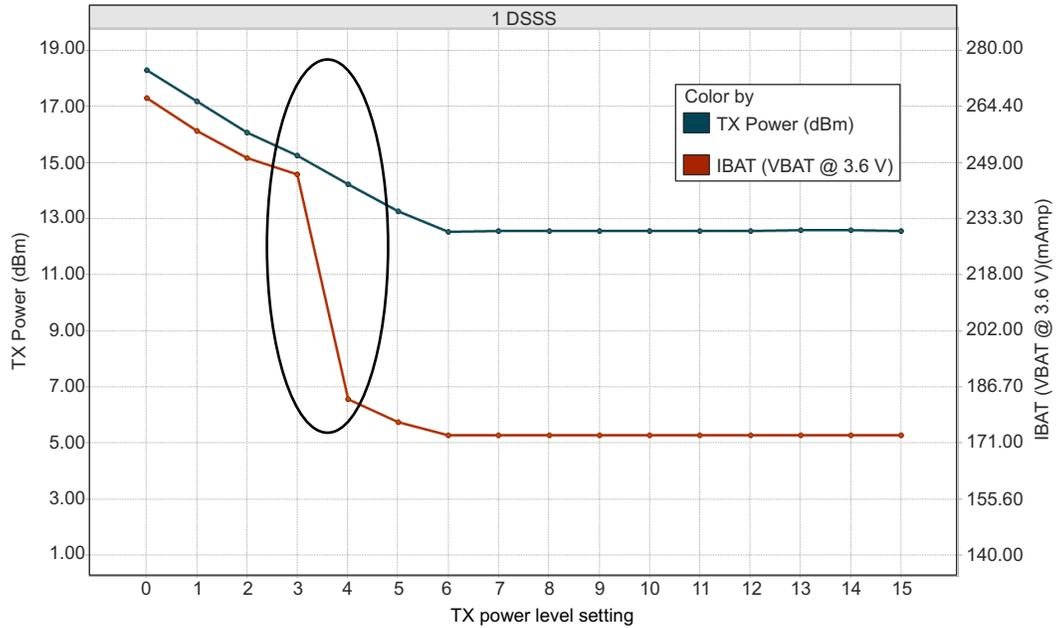
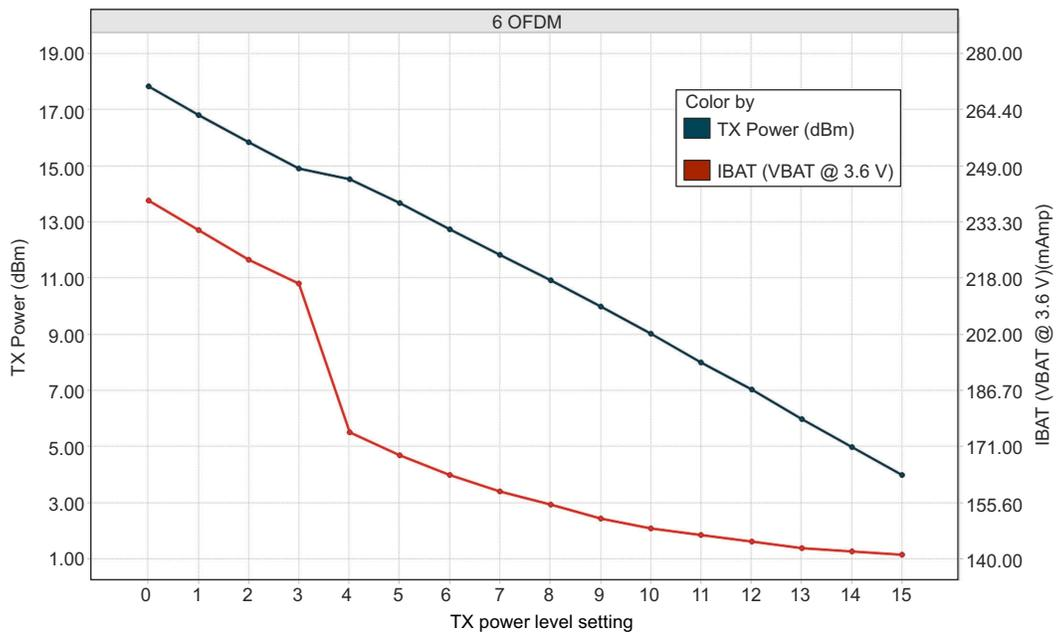
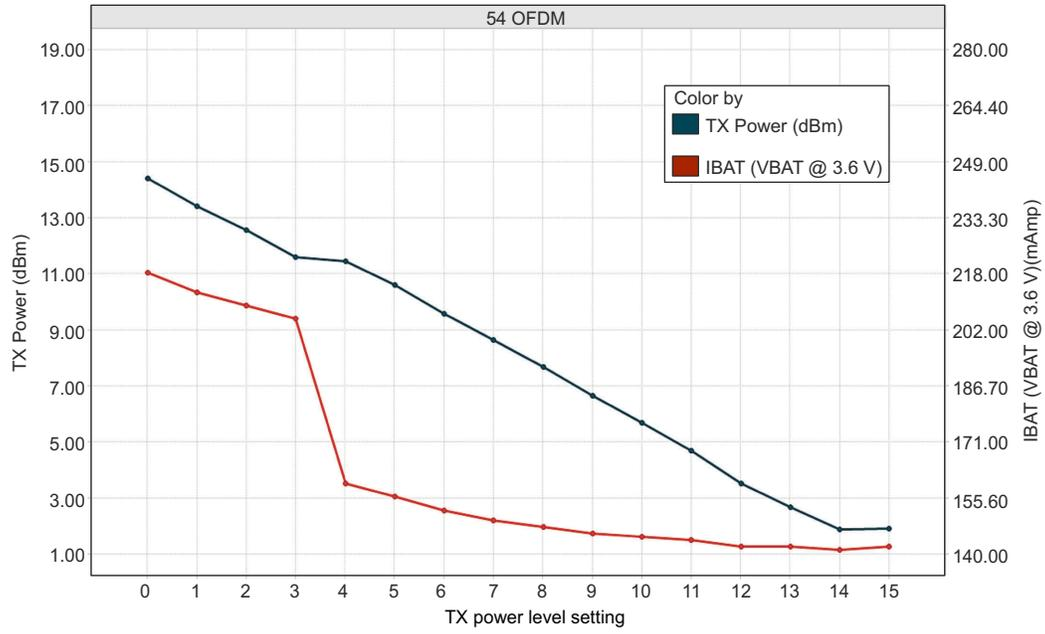

图 7-1. TX Power and IBAT vs TX Power Level Settings (1 DSSS)
图 7-2. TX Power and IBAT vs TX Power Level Settings (6 OFDM)
图 7-3. TX Power and IBAT vs TX Power Level Settings (54 OFDM)
- (1) TX power level = 0 implies maximum power (see 图 7-1, 图 7-2, and 图 7-3). TX power level = 4 implies output power backed off approximately 4 dB.
- (2) LPDS current does not include the external serial flash. The LPDS number of reported is with retention of 256KB of MCU SRAM. The CC3230x device can be configured to retain 0KB, 64KB, 128KB, 192KB, or 256KB of SRAM in LPDS. Each 64-KB block of MCU retained SRAM increases LPDS current by 4 μA.
- (3) DTIM = 1
- (4) The complete calibration can take up to 17 mJ of energy from the battery over a time of 24 ms. In default mode, calibration is performed sparingly, and typically occurs when re-enabling the NWP and when the temperature has changed by more than 20°C. There are two additional calibration modes that may be used to reduced or completely eliminate the calibration event. For further details, see CC31xx, CC32xx SimpleLink™ Wi-Fi® and IoT Network Processor Programmer's Guide.
- (5) The CC3230x system is a constant power-source system. The active current numbers scale based on the V_{BAT} voltage supplied.
- (6) Typical numbers assume a VSWR of 1.5:1.
- (1) TX power level = 0 implies maximum power (see 图 7-1, 图 7-2, and 图 7-3). TX power level = 4 implies output power backed off approximately 4dB.
- (2) LPDS current does not include the external serial flash. The LPDS number of reported is with a retention of 256KB of MCU SRAM. The CC3230x device can be configured to retain 0KB, 64KB, 128KB, 192KB, or 256KB of SRAM in LPDS. Each 64-KB block of MCU retained SRAM increases LPDS current by 4µA.
- (4) The complete calibration can take up to 17 mJ of energy from the battery over a period of 24 ms. Calibration is performed sparingly, typically when coming out of HIBERNATE and only if the temperature has changed by more than 20°C. The calibration event can be controlled by a configuration file in the serial flash.
- (5) Typical numbers assume a VSWR of 1.5:1.
图 7-1, 图 7-2, and 图 7-3 show TX power and IBAT versus TX power level settings for the CC3230S device at modulations of 1 DSSS, 6 OFDM, and 54 OFDM, respectively. For the CC3230SF device, the IBAT current has an increase of approximately 10mA to 15mA depending on the transmitted rate. The TX power level will remain the same.
In 图 7-1, the area enclosed in the circle represents a significant reduction in current during the transition from TX power level 3 to level 4. In the case of lower range requirements (14dBm output power), TI recommends using TX power level 4 to reduce the current.